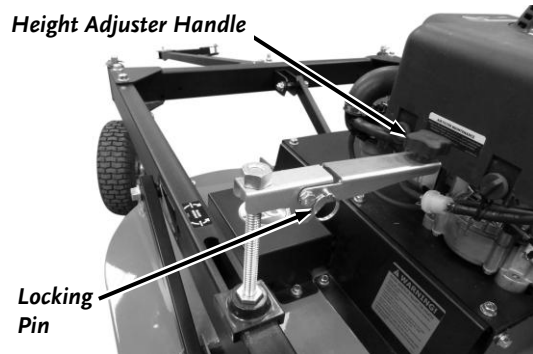

Figure 30
2. Lift the Handle up to the operating position and re-install the Locking Pin (**Figure 30**).